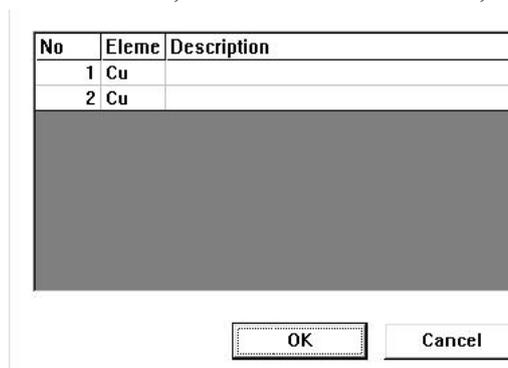
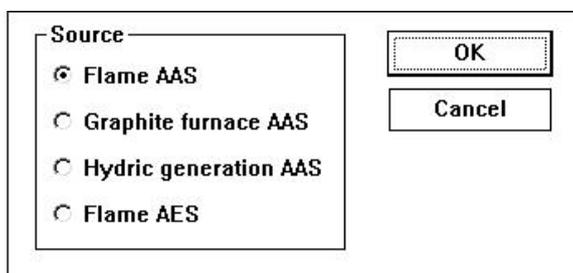
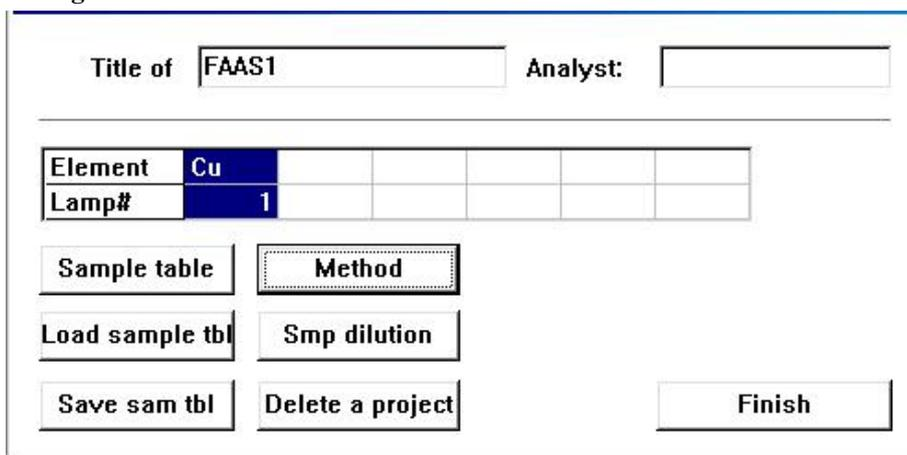

Fig. 4-13
Fig. 4-14
Fig. 4-15
- b. Select “Modify” in Fig. 4-2, and then click “Continue” to display the page of Fig. 4-13.
- b. Choose “Delete” in Fig 4-2, and then click “Continue” to display the page of Fig. 4-13.
After setting up and modifying the conditions, click “Finish” in the page of Fig. 4-2 to display the page of Fig. 4-1. Click “File” and then click “New” column to display the page to Fig. 4-14 as shown below. Click the edited analytical method such as “Flame AAS” and then click “OK”. The page as shown in Fig. 4-15 will appear.
Click the first block beside “Element” and “Lamp#” to show the blue color before the selecting method. Then click “Method” to appear the edited method page as shown in Fig. 4-13. Click the element to be determined and make it being blue color, and then click “OK”. Fig. 4-15 will be returned again, the moment, the first block is selected. To select more elements, click the second block and do the same as above. Up to six elements can be selected.
Click “Sample table” in the page of Fig. 4-15 to display Fig. 4-16.
If the sample table needs to be saved for later use, click “Save sample tbl” in Fig. 4-15 and input
To load the sample table for viewing and editing, click “Load sample tbl” in Fig. 4-15 and find the file name and click “Open”.
Refer to Fig.4-15, if modification or deletion is required, click the relative block beside “Element” and “Lamp#” to be blue color, then click “Delete a project” to delete method required immediately. If a new analytical method is required, the selection method must be made again. After completing all analytical parameters, click “Finish” to show Fig. 4-17. The initialization progress starts as following Fig.